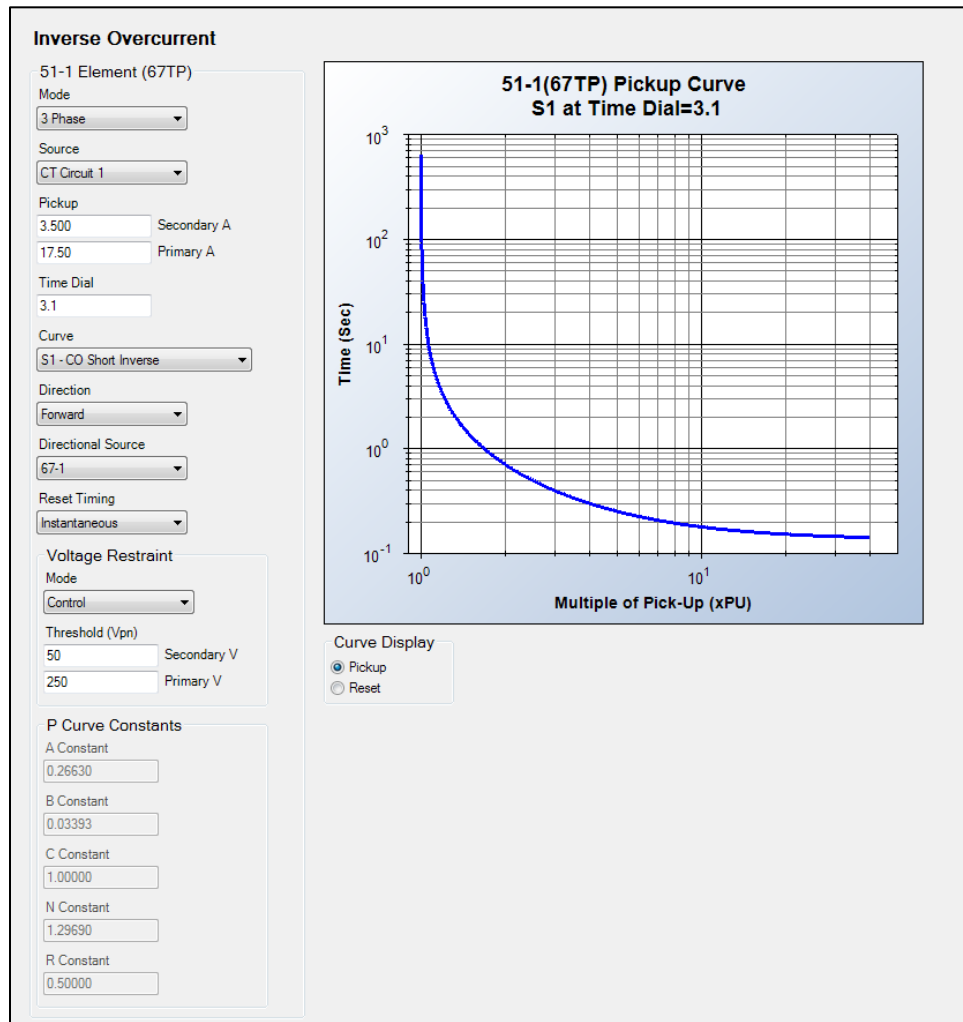

Figure 18-4. Inverse Overcurrent Settings Screen
Inverse overcurrent element operational settings are configured on the Inverse Overcurrent (51) settings screen (Figure 18-4) in *BESTCOMSPlus*.